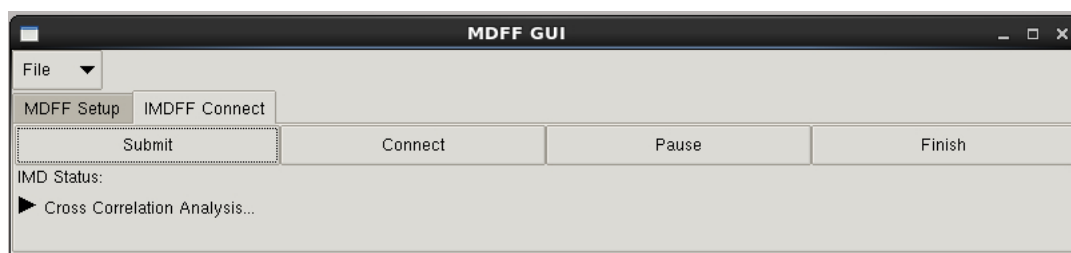

Figure 19: IMDFF Connect tab of the MDFF GUI, where interactive MDFF simulations can be submitted, connected to, paused, terminated, and analyzed
- 4 Navigate to the 'IMDFF Connect' tab of the MDFF GUI, shown in Fig. 19. This section of the GUI contains buttons for submitting, connecting to, pausing, stopping, and analyzing the IMDFF simulation set up in the MDFF Setup tab.